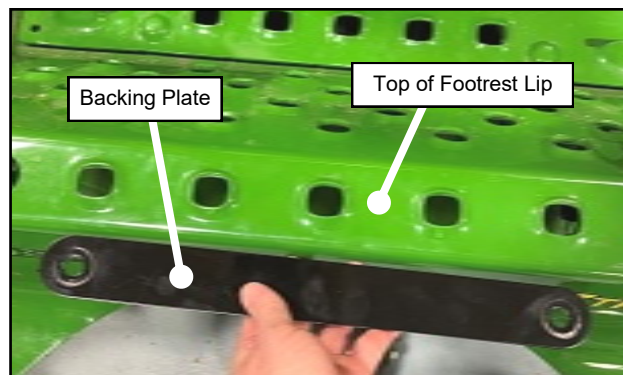

Fig. 1.15a (Install Ballast Box, Backing Plate)
**1.15** Remove ballast box from shipping pallet. Next, install ballast box on the front edge, of the vehicle. Install top bolts first into the vehicle's floorboard (do not fully tighten). Place backing plate between the underside of the floorboard and locking nuts. Next, install front lower carriage bolts from inside the vehicle floorboard outwards to the front of the vehicle. To tighten down the lock nuts, you will need a 3/4" ratchet wrench to access the nuts found on the inside of the ballast box. Fully tighten the front bolts and then the top bolts. See Figures 1.15a and 1.15b.